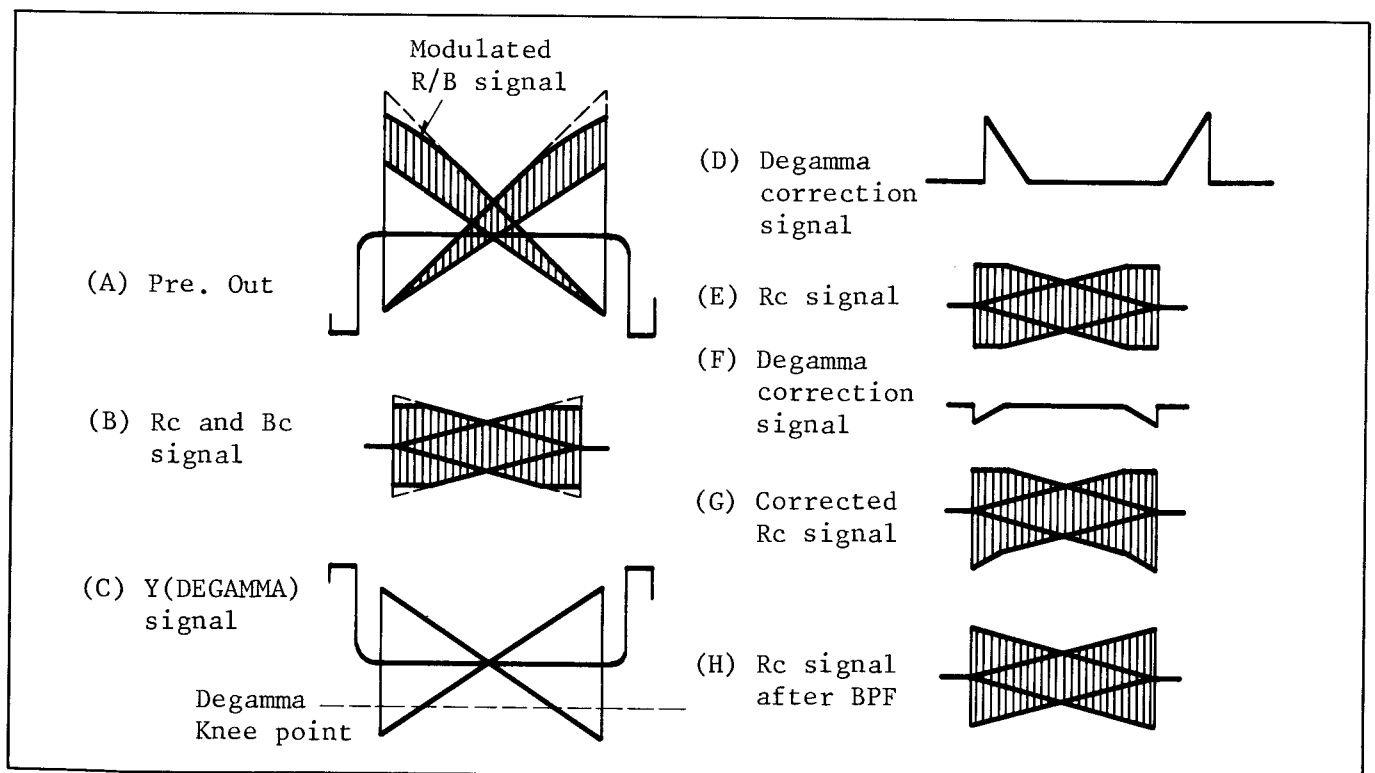

Fig. 15. Degamma Correction Signal
Since the special tube in this color camera produces 4.3MHz modulated red (R) and blue (B) signals mixed with a green (G) signal (see Fig. 15 (A)), the higher levels of the modulated R and B signals obtained by separating the mixed signals are also compressed (B). The de-gamma correction signal circuit generates a de-gamma correction signal (D) to compensate for the compression of the higher levels of the R and B signals. This correction signal will be applied to both the Rc and Bc circuits as needed.